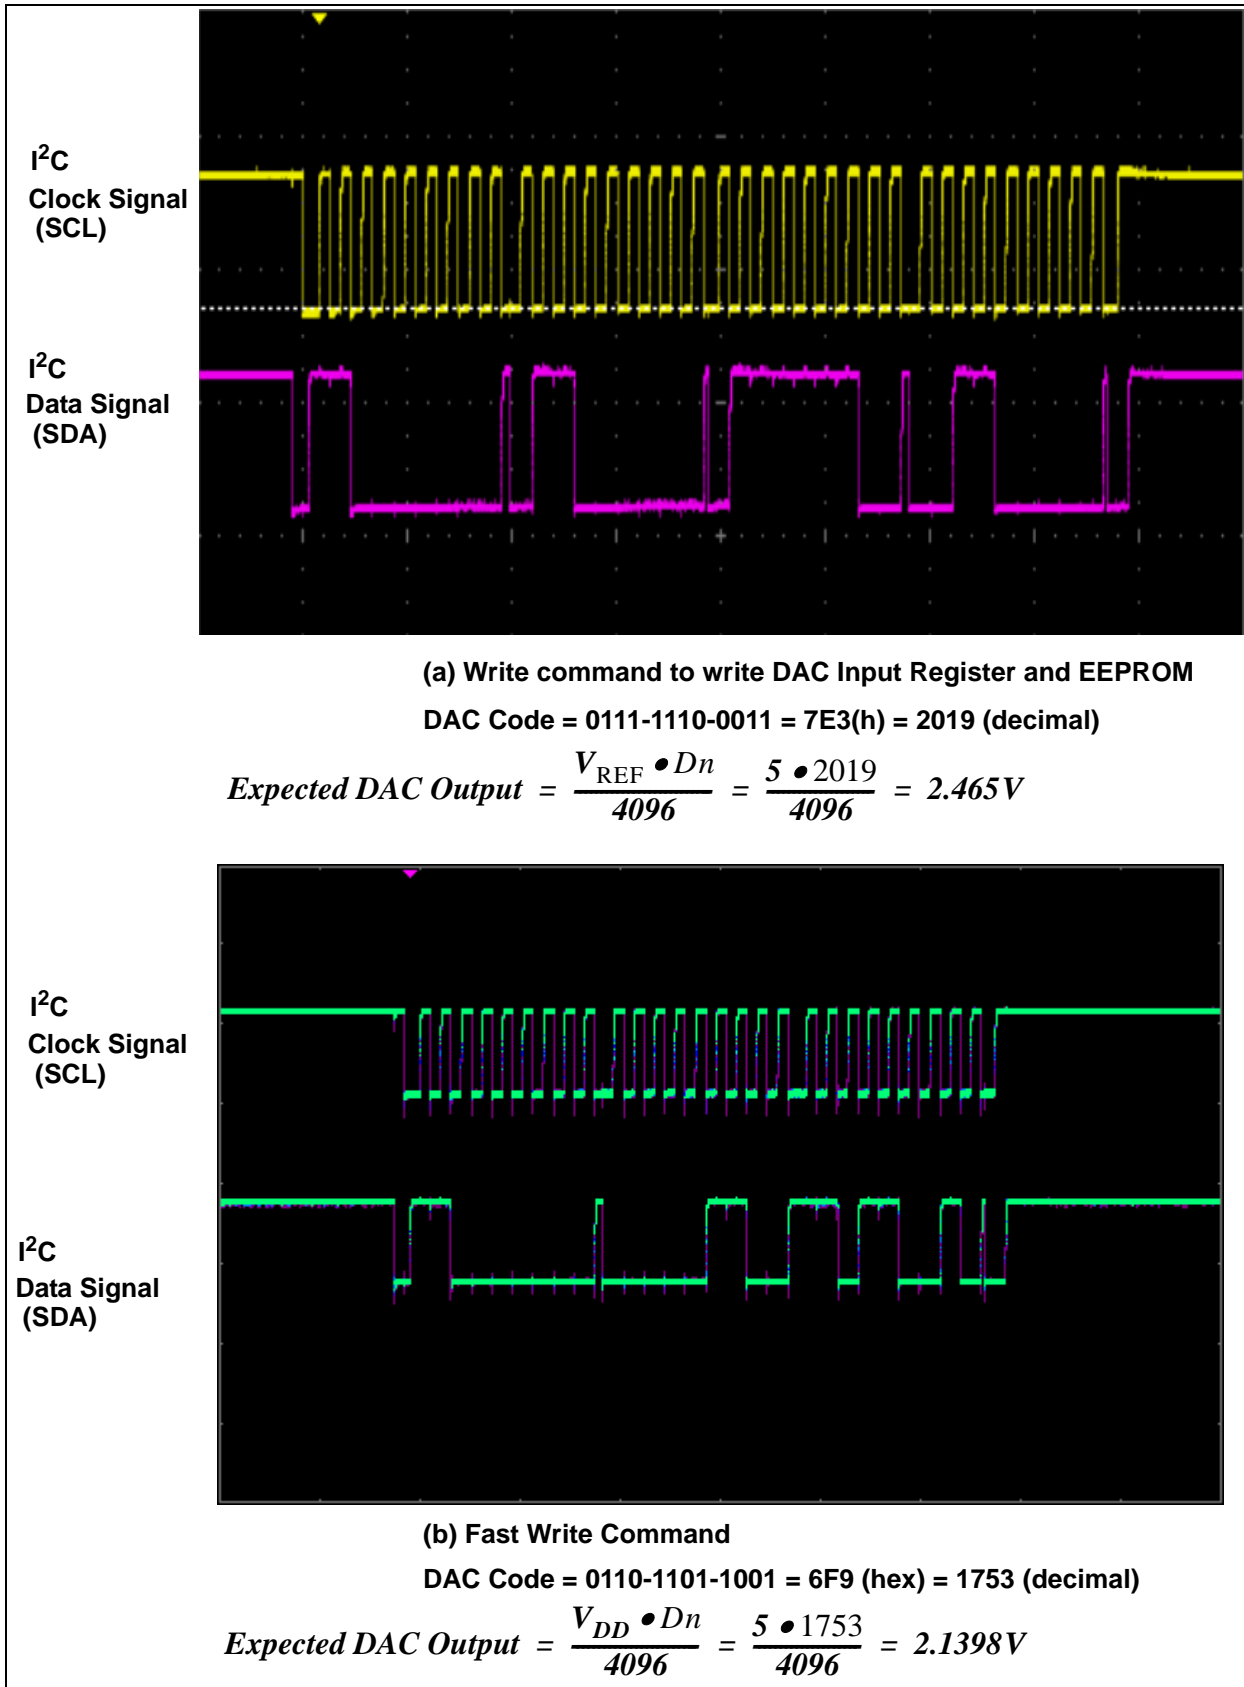

FIGURE 1-6: I²C Write Command Waveforms for the MCP4726, with $V_{REF} = V_{DD}$ and Gain = 1x.
- S4: Incrementing the DAC code using a write command (writing both DAC register and EEPROM). The DAC output can be monitored at the V_{OUT} terminal. See Figure 1-6 for the V_{OUT} waveform.